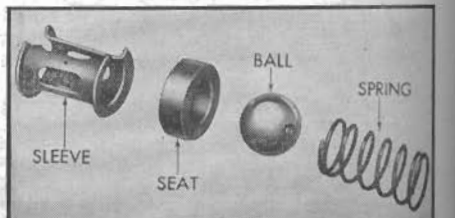

Fig. 13 Lubrication check valve parts
24. Remove lubrication check valve, parts of which are shown in Fig. 13.